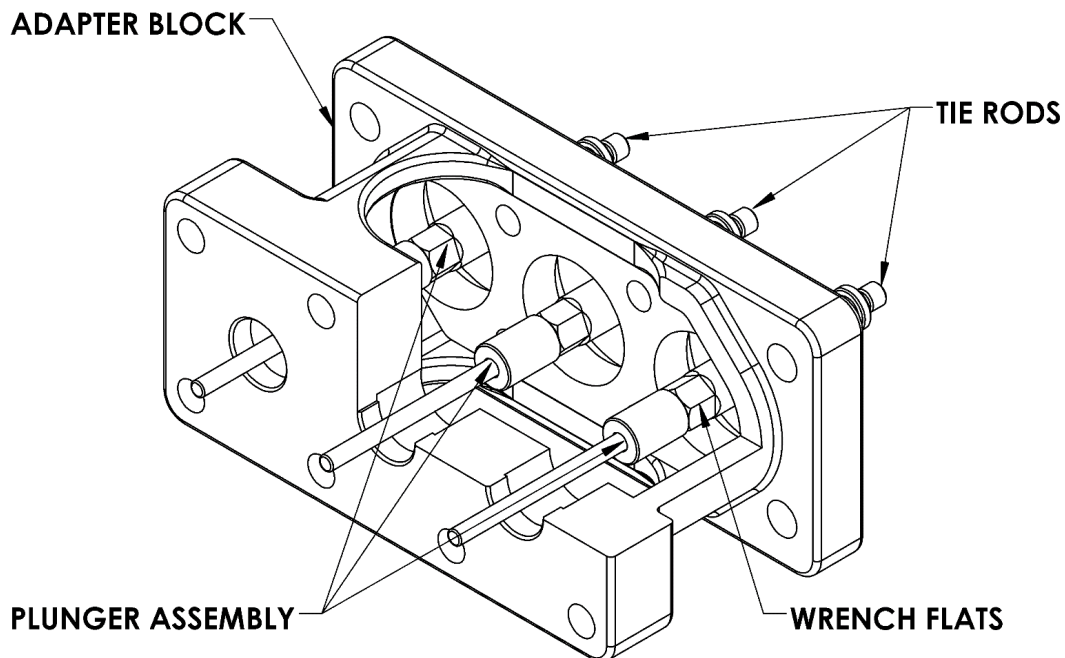

Figure 37 Adapter Block, Tie Rod, and Plunger Assembly
1. **Inspect** and **confirm** the cleanliness of the threads on the plunger assemblies (see **Figure 37** on previous page) and the threads and face of the pistons in the crankcase.